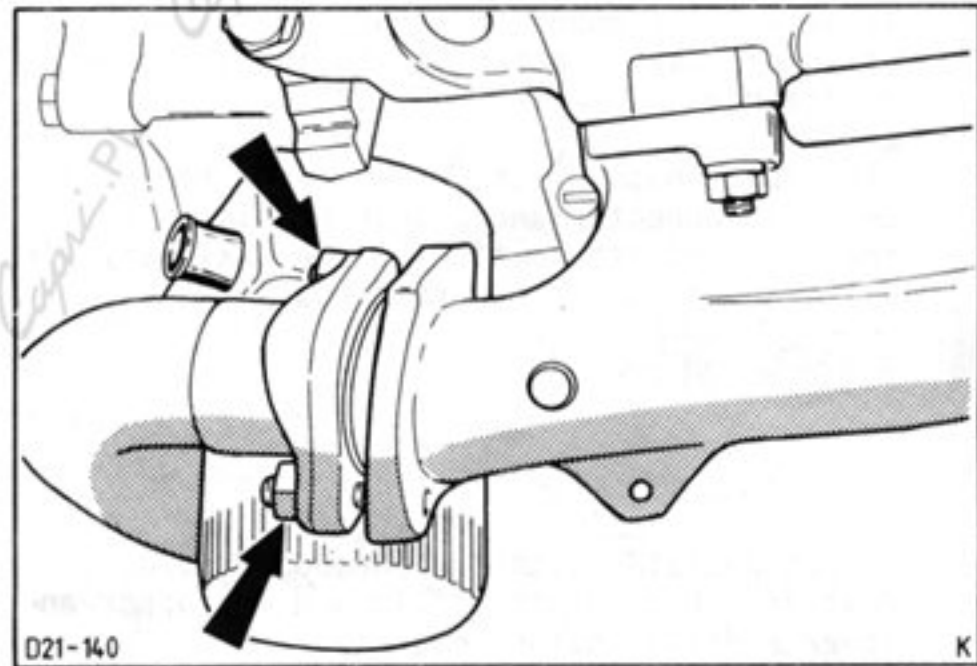

Fig.17. Bolt on exhaust pipe.
25. Bolt exhaust pipes to the exhaust manifolds, Fig.17, and fit cooling-water hoses to the oil cooler.